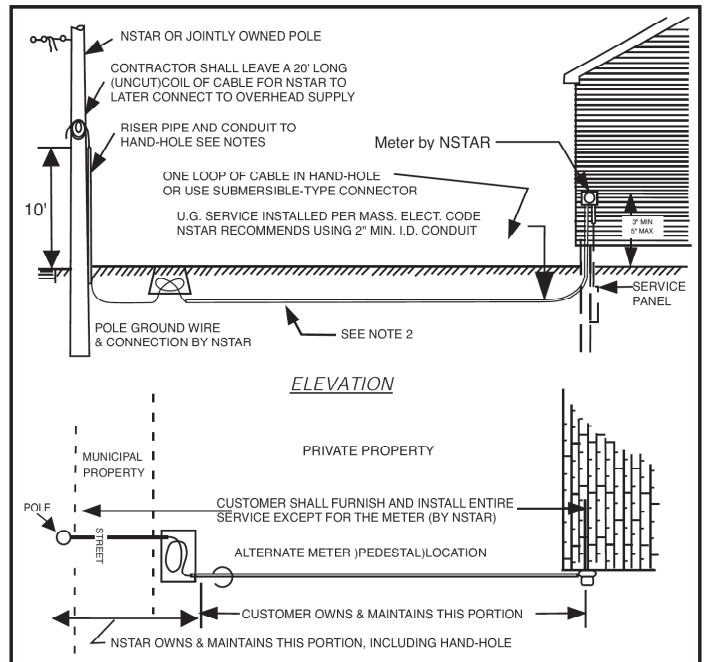

Figure 1: Typical overhead to underground service (same side of street)
- After trenching, your electrician will need to install your cable and service equipment from the building to the pole. Please see Figures 1 and 2 on next page, from NSTAR's booklet "Information and Requirements for Electric Service" available on NSTAR's website at http://www.nstar.com/business/Default.asp?menu=service_requirements&
Next, you should determine the location of your meter base. Your meter base should be located outside of your home and on the front side, or within 4 feet of it on the side closest to normal public access (see Figures 1 and 2).
unless otherwise required by the engineering technician, road right-of-way administrator, or electrical inspector (see *Figure 1*).
You will need to install all conduit, pull string, service hand-hole, trenching and backfill from the meter base to the NSTAR source (*pole, transformer, secondary hand-hole*). This includes the electrical cable, which should be brought 10 feet up the pole and with 20 feet of cable left wrapped up for NSTAR to connect to the overhead supply (see *Figures 1 and 2*).